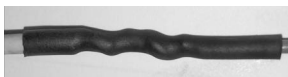

FIG. 57
5. Slide the shrink tubing over the soldered wires. Use a heat gun to contract the shrink tubing (FIG. 57).